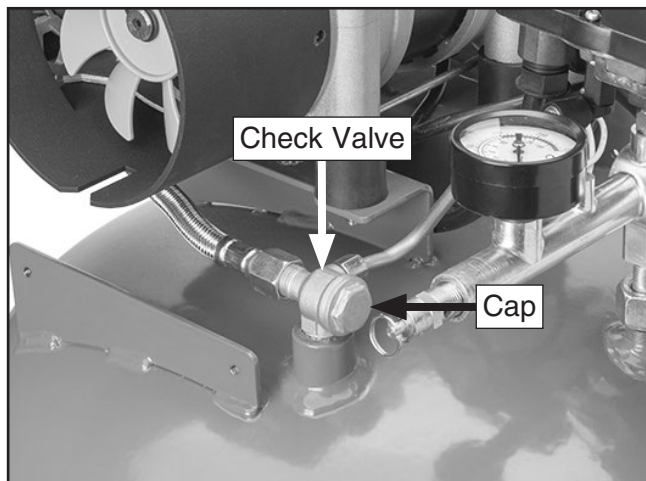

Figure 28. Location of check valve cap (control panel removed for clarity).
7. Remove cap, shown in **Figure 28**, from check valve.